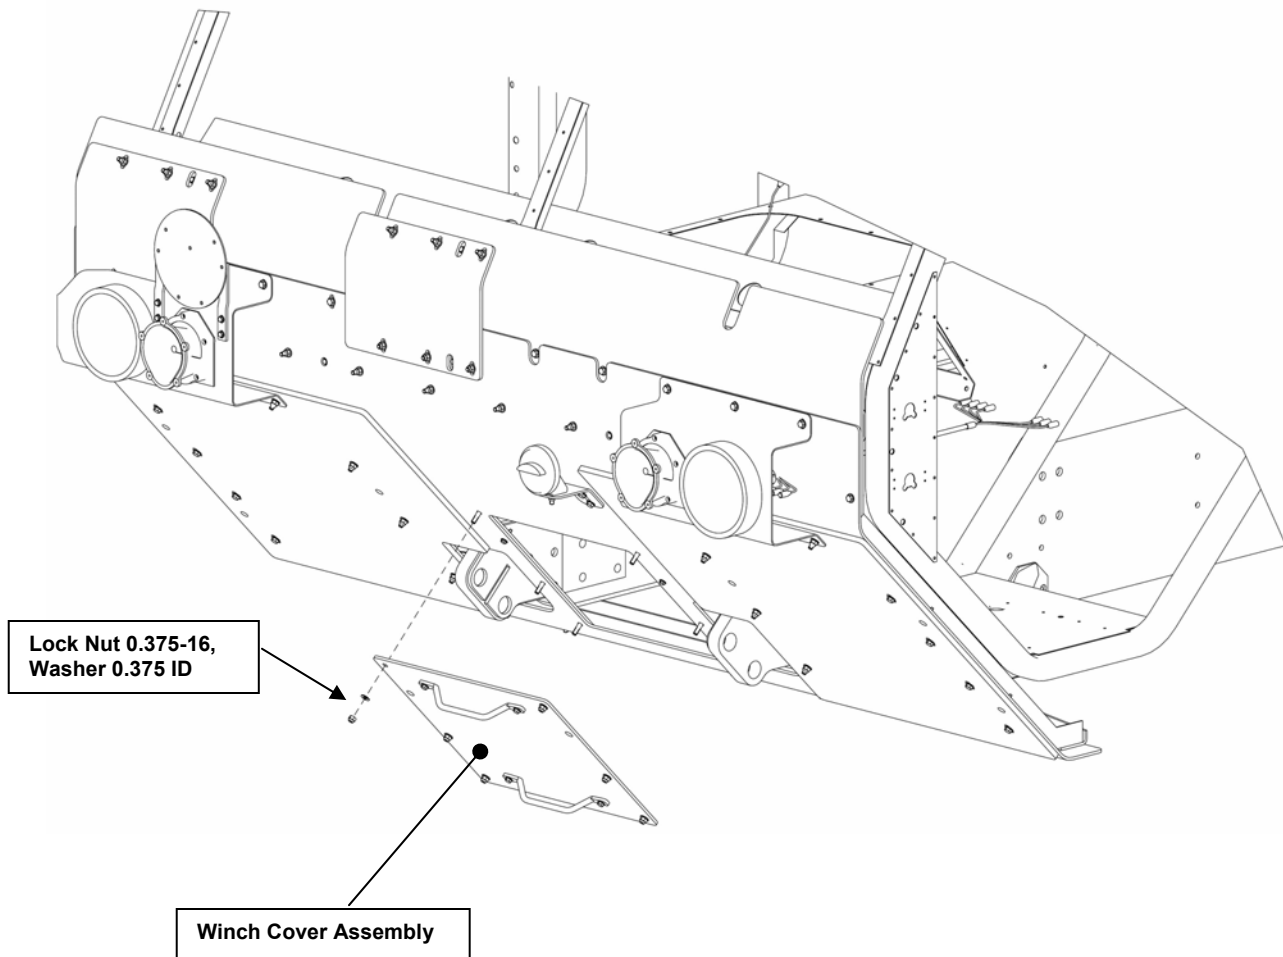

Figure 55. Winch Cover installation.
- nn) Install the Winch Cover Assembly using six (6) 0.375-16 hex nuts and washers (see Figure 55).